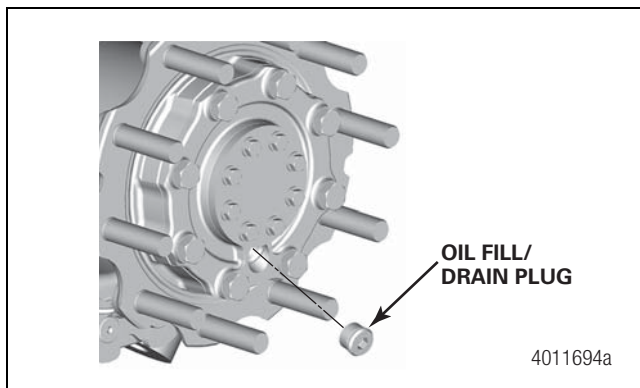

Figure 4.4
2. Rotate the hub so the oil fill/drain plug is at the 6 o'clock position. Remove the oil fill/drain plug and allow the oil to drain. Reinstall the plug. Figure 4.4.